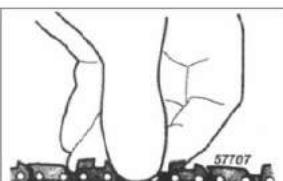

Fig. PP7
4. Pull the chain by hand along the top of the guide bar several times from the engine to the bar's tip. The chain should feel snug but still pull freely. See Fig.PP7.